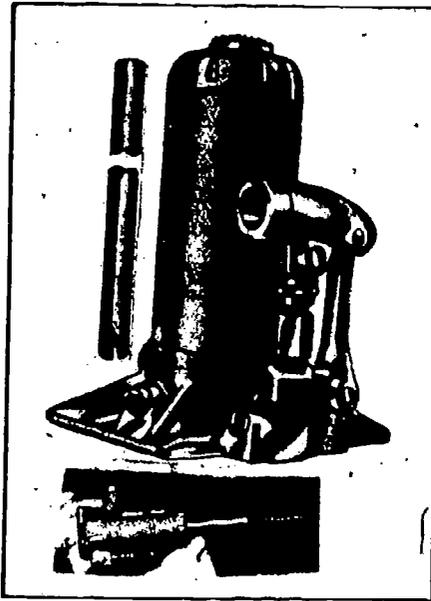

Fig 1-14. Hand hydraulic jack.
a. Jacks. The hand hydraulic jack (fig 1-14) is usually the easiest item of hoisting equipment to obtain. The capacity is stamped on a plate and attached to the jack. A jack is a part of the collateral materiel of motor transport vehicles. When placed on a suitable base, the jack will lift most items that require raising for repairs. The jack was designed to be used in the vertical position, but by placing the pump on the low side it can be used horizontally. The height of the jack can be adjusted by turning the threaded screw in or out of the hydraulic piston. Located at the base of the jack near the pump is a valve that controls the return flow of hydraulic oil. The handle of the jack serves as a wrench to close the valve and to operate the pump. The jack should be checked before each use and cleaned after each use. Before returning to storage, push the hydraulic piston all the way down and turn the adjusting screw in to the lowest position, but do not tighten or force it. Keep the screw threads clean and lightly oiled to prevent rust and corrosion.